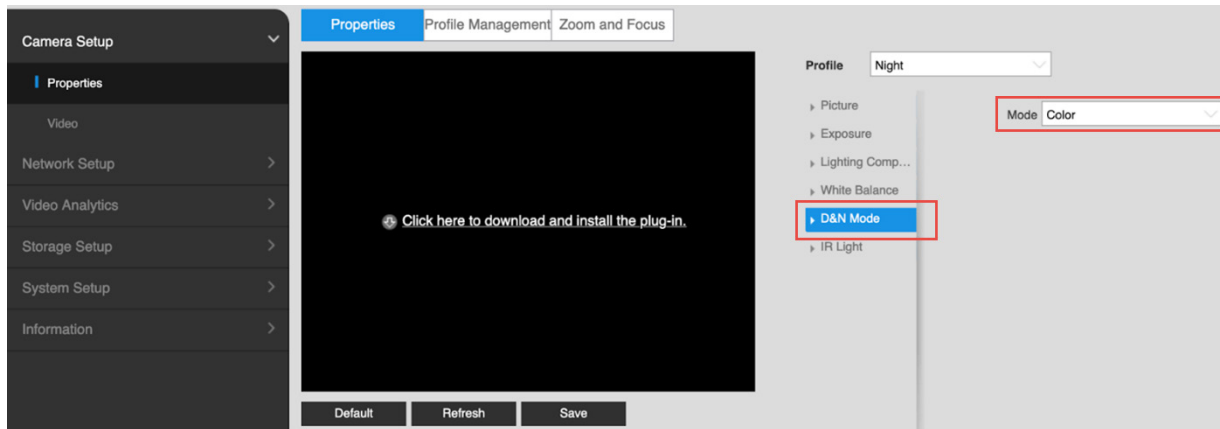

Fig. 4.18
- Select “Color” from **Mode** field drop-down list. See Fig. 4.18